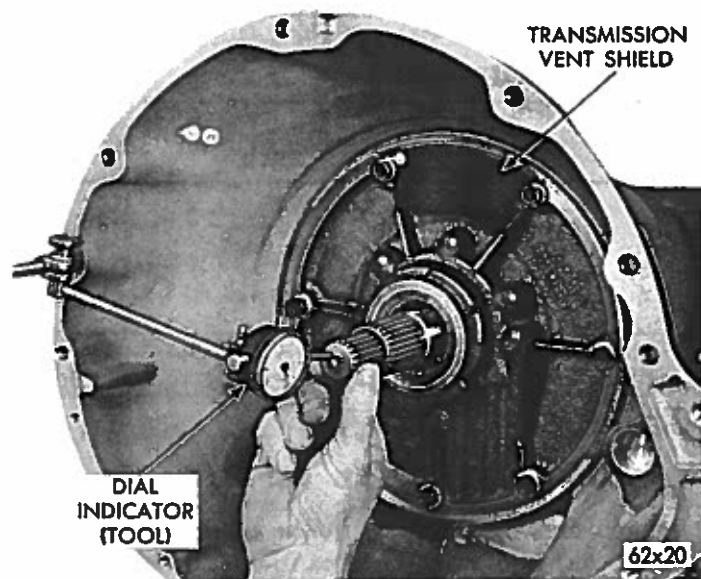

Fig. 45—Checking Drive Train End Play (Tool C-3339)
(1) Attach a dial indicator to the transmission bell housing with its plunger seated against the end of input shaft (Fig. 45).
(2) Chuck the input shaft in and out to obtain end play reading.
(3) Record the indicator reading for reference when reassembling the transmission. End play specifications are .030-.070 inch.